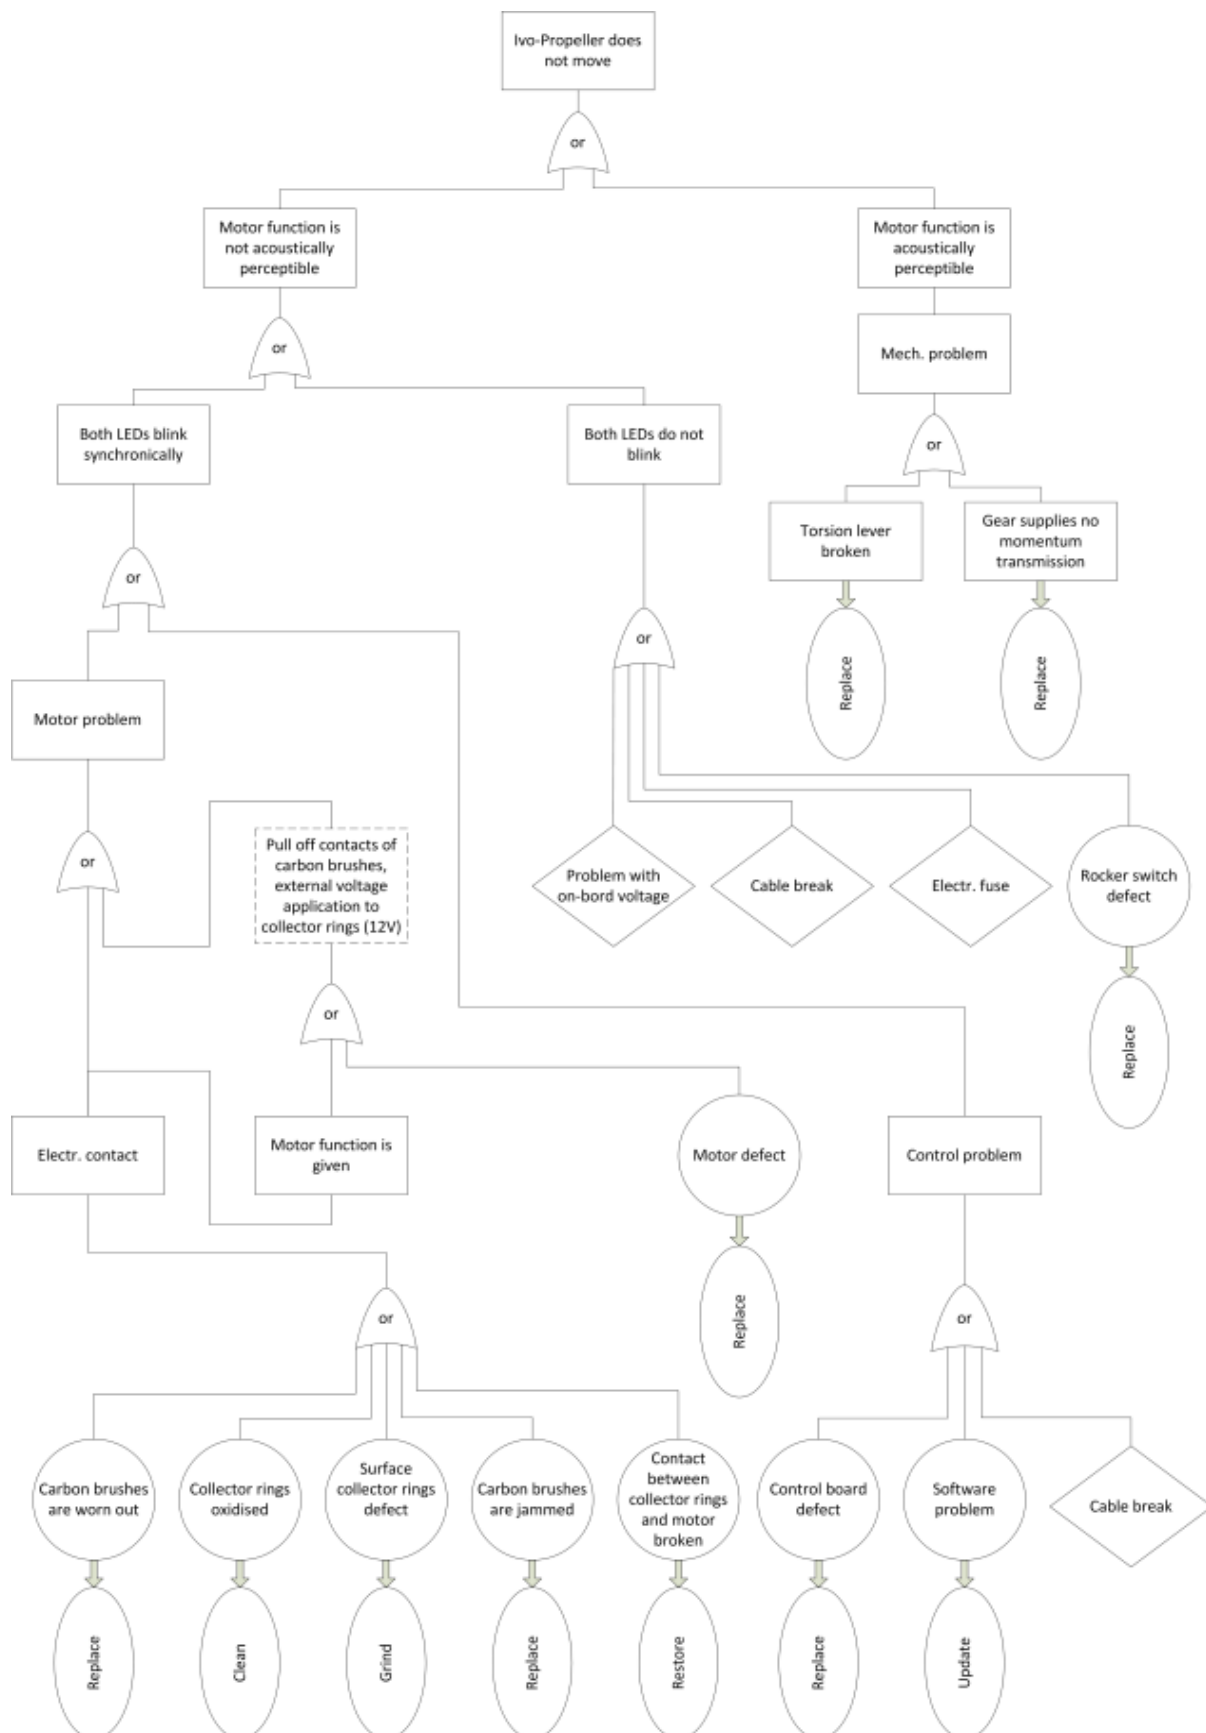

Fig. 1 – Fault Tree IVO Variable Pitch Propeller
- 6 Execute fault tree analysis (Fig. 1)